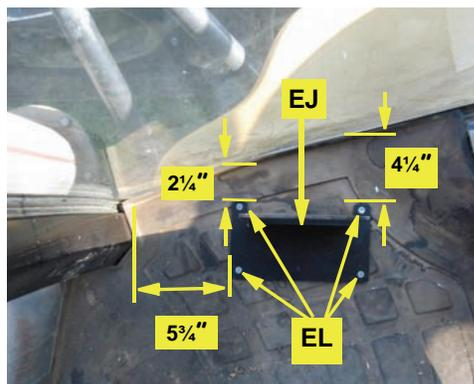

Figure 1b: ECU bracket installation
- b. Position bracket **EJ** with its front and rear one-inch tabs $2\frac{1}{4}$ " and $4\frac{1}{4}$ " from the right side door respectively, and its front edge $5\frac{3}{4}$ " from the front pillar (Figure 1b).